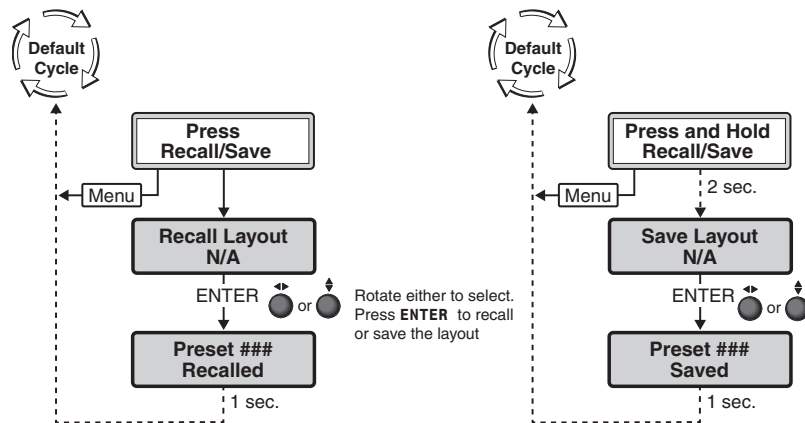

Figure 22. Recall/Save Menu
1. Press the **RECALL/SAVE** button (see figure 22) to go to the **Recall Layout** menu.